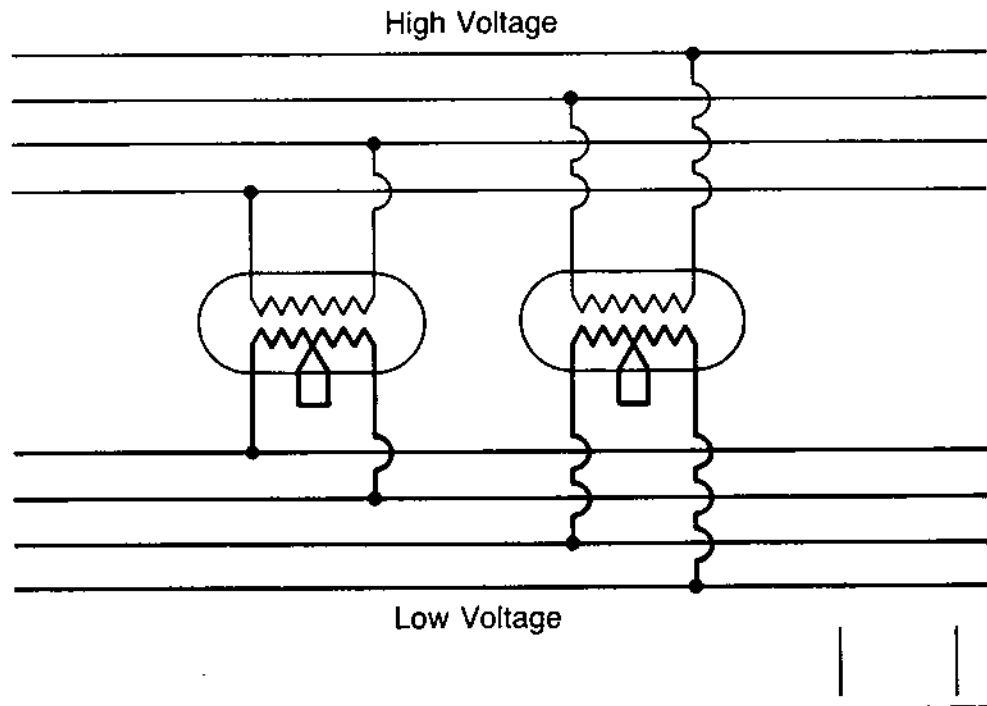

Fig. 29 – Two-Phase, Four-Wire Connection
a. Two-phase, four-wire connections Transform four-wire to two-phase, four-wire of a different voltage without connection between the phases. See Figure 29.